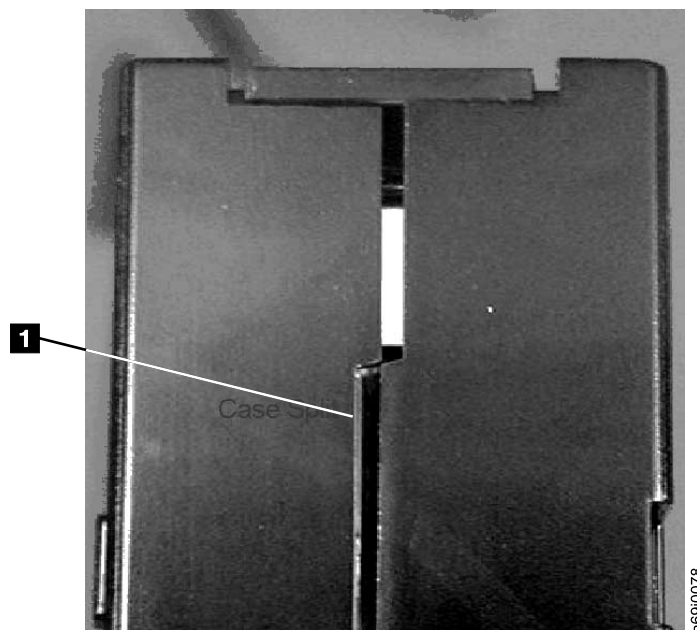
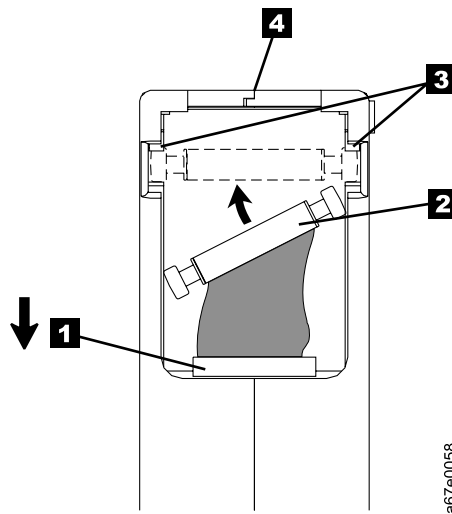

Figure 53. Checking for gaps in the seams of a cartridge
Figure 55. Placing the dislodged leader pin into the correct position. The cartridge door is open to show the leader pin.
- Inspect the rear of the cartridge (the part that you load first into the tape load compartment) and ensure that there are no gaps in the seam of the cartridge case (see **1** in Figure 53 and **4** in Figure 55 on page 72). If there are gaps in the seam (see Figure 53), the leader pin may be dislodged. Go to “Repositioning or Reattaching a Leader Pin” on page 70.
1. Slide open the cartridge door (**1** in Figure 55) and locate the leader pin **2** (you may need to shake the cartridge gently to roll the pin toward the door).